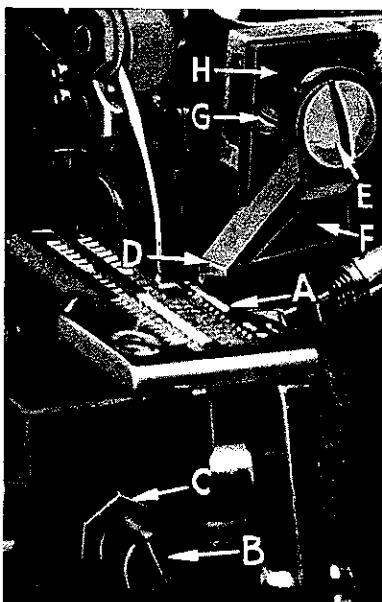

Fig. 13
Replace lower knife holder assembly. Lower knife (A, Fig. 13) should be set with cutting edge flush with throat plate surface. Adjustments are made with hexagonal head screw which holds lower knife. Lower knife is spring pressed against upper knife, so no lateral adjustment is necessary when width of trim is changed.
Replace upper knife assembly. Clamp upper knife (D, Fig. 13) in position, setting screw (E) to hold clamp (F) in its most clockwise position against upper knife. At bottom of its stroke, front cutting edge of upper knife should extend not less than 1/64 inch below cutting edge of lower knife.